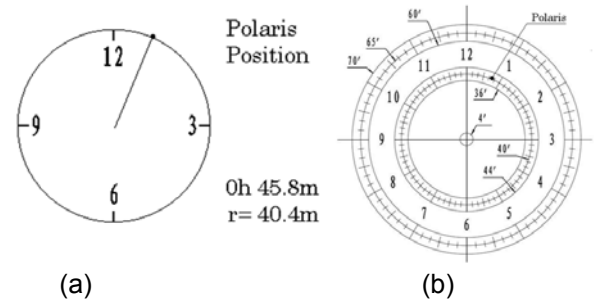

Figure 14
- e. Use Hand Controller (MENU => “Alignment” => “Pole Star Position”) to display the Polaris Position on the LCD screen, as indicated in Figure 14 (a). For example, June 22, 2014, 20:19:42 in Boston, US (alt N42°30’32” and long W71°08’50”), UTC-300 minutes, the Polaris Position is 0h45.8m and 40.4m.
- f. Use the Azimuth and Latitude Adj. Knobs to adjust the mount in both directions and put the Polaris in the location on the Polar Scope Dial (same as indicated on the HC LCD), as shown in Figure 14 (b).